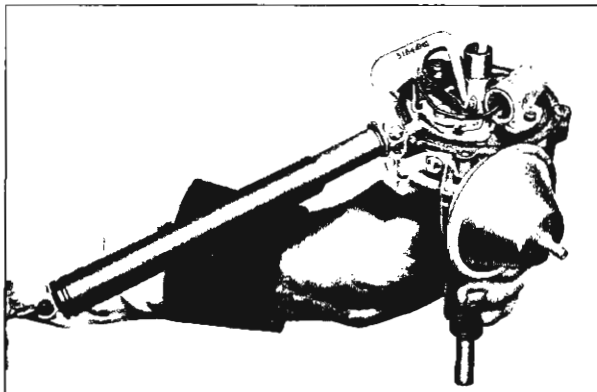

Fig. 46—Checking Breaker Arm Spring Tension
8. Check and adjust points for proper alignment and breaker arm spring tension (fig. 46). Use an aligning tool to bend stationary contact support if points need alignment.